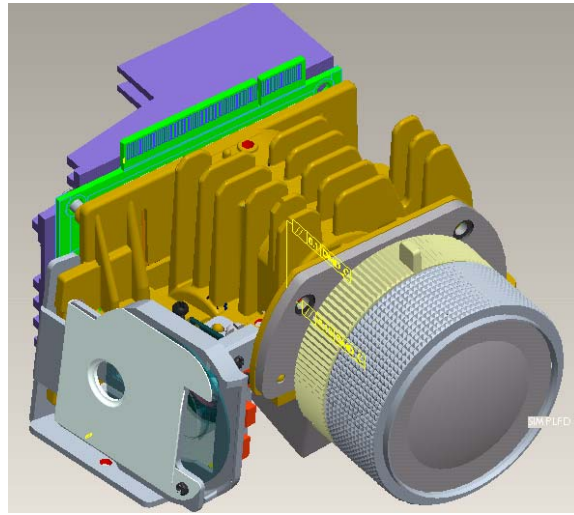

Fig. 10-7
10.7 Assemble BKT Link and Shield CW (Fig. 10-7)